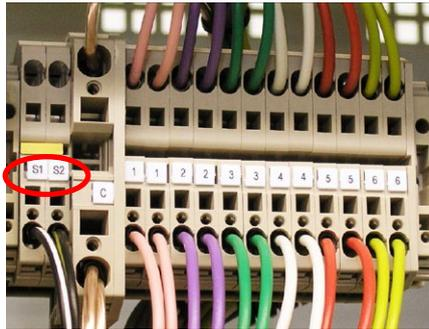

Fig. 5-4 .- Jumper for short-circuiting the secondary winding of the current transformer (CT).
- Once the cables are installed, disconnect the jumper connecting terminals S1 and S2 inside the capacitor bank (see Fig. 5-4)